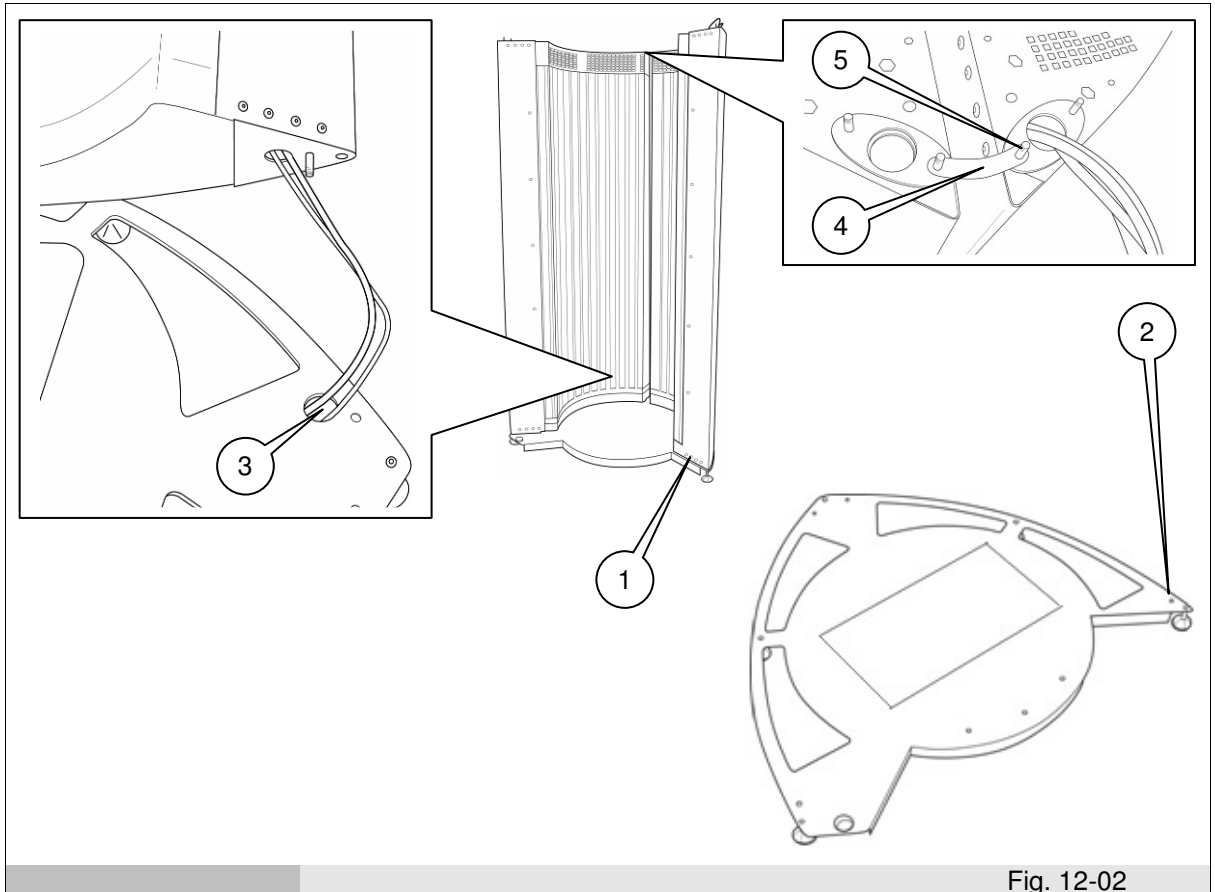

Fig. 12-02
- Position one wall at a time on the base, inserting the M8 supports at the base of each wall (ref. 1 fig. 12-02) in the relative holes in the base. The walls must be inserted from above and the cables should pass through at the top.
Remember to pass the plate's cables that leave the base of the left-hand wall through the relative hole (ref. 3 fig. 12-02) at the base of the appliance.
Attach the two walls to the base by screwing the relative M8 nuts onto their M8 supports using a spanner from under the base. The walls can be kept together during assembly by fitting the bracket (ref. 4 fig. 12-02), supplied in the accessory kit, on the M6 pins (ref. 5 fig. 12-02).